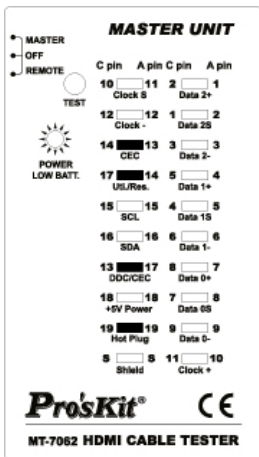

Fig 5. Crossover
- **Crossover**: With two short “beep” sound. Crossed pins LED will light on at same time. Example: Test HDMI (A Type) to HDMI (A Type) cable that pin #13 crossed with pin #17 and pin #14 crossed with pin #19, or test HDMI A Type) to Mini-HDMI (C Type) cable that pin #14 crossed with pin #13 and pin #17 crossed with pin #19. (Fig 5.)